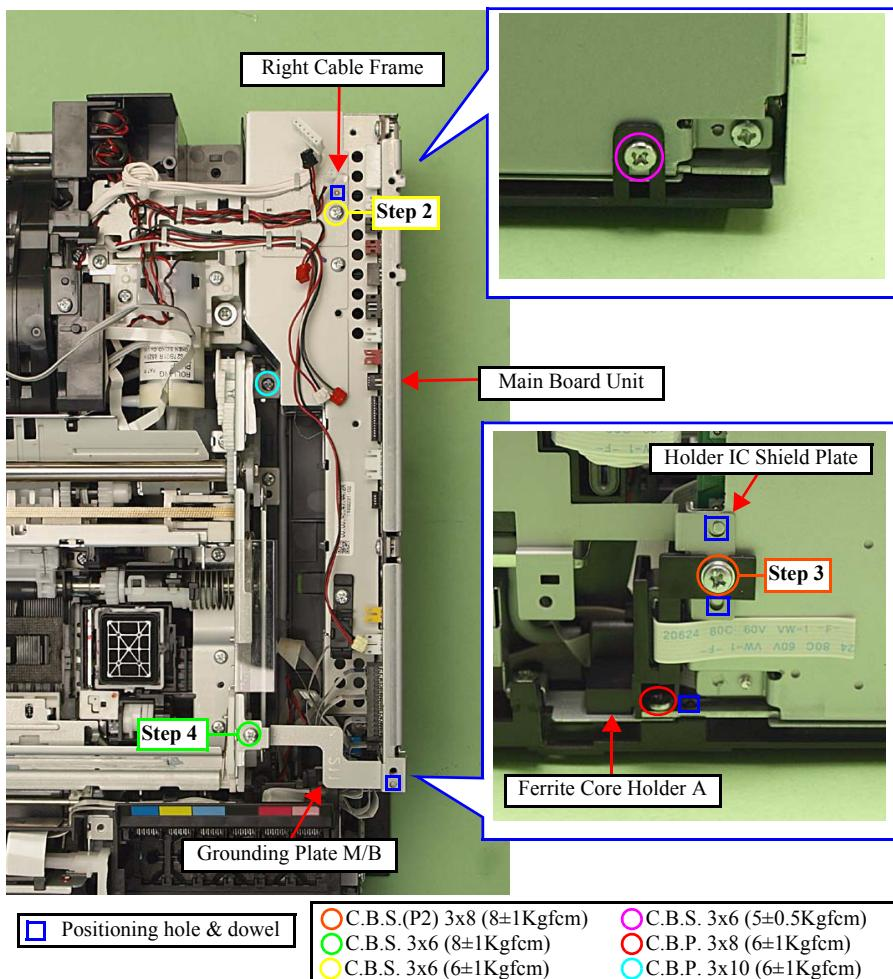
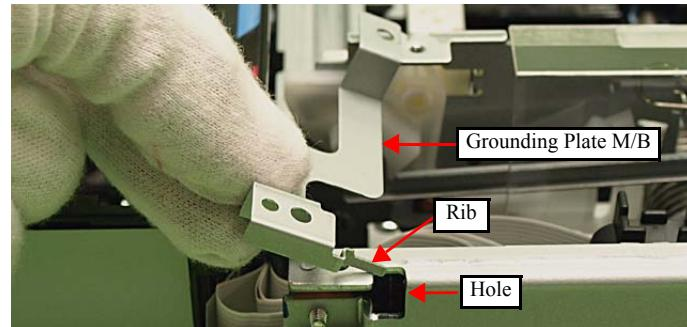

Figure 4-40. Removing the Main Board Unit
Figure 4-46. Attaching the Grounding Plate M/B
2. Remove the screw (x1) that secures the Right Cable Frame and the Main Board. (See Fig. 4-40.)
3. Remove the screw (x1) that secures the Ferrite Core Holder A, and remove the Ferrite Core Holder A. (See Fig. 4-40.)
4. Remove the screw (x1) that secures the Grounding Plate M/B, and remove the Grounding Plate M/B. (See Fig. 4-40.)
- Align the positioning hole (x1) of the Main Board with the dowel (x1) of the Upper Shield Plate M/B. (See Fig. 4-40.)
- Secure the Ferrite Core Holder A and the Holder IC Shield Plate to the Main Board Unit with the screw. (See Fig. 4-40.)
- Align the dowel (x1) of the Main Board Unit with the positioning hole (x1) of the Right Cable Frame. (See Fig. 4-40.)
- Insert the rib (x1) of the Grounding Plate M/B to the hole of the Main Board Unit, and align the positioning hole (x1) of the Grounding Plate M/B with the dowel (x1) of the Main Board Unit, and attach the Grounding Plate M/B. (See Fig. 4-40, Fig. 4-46.)